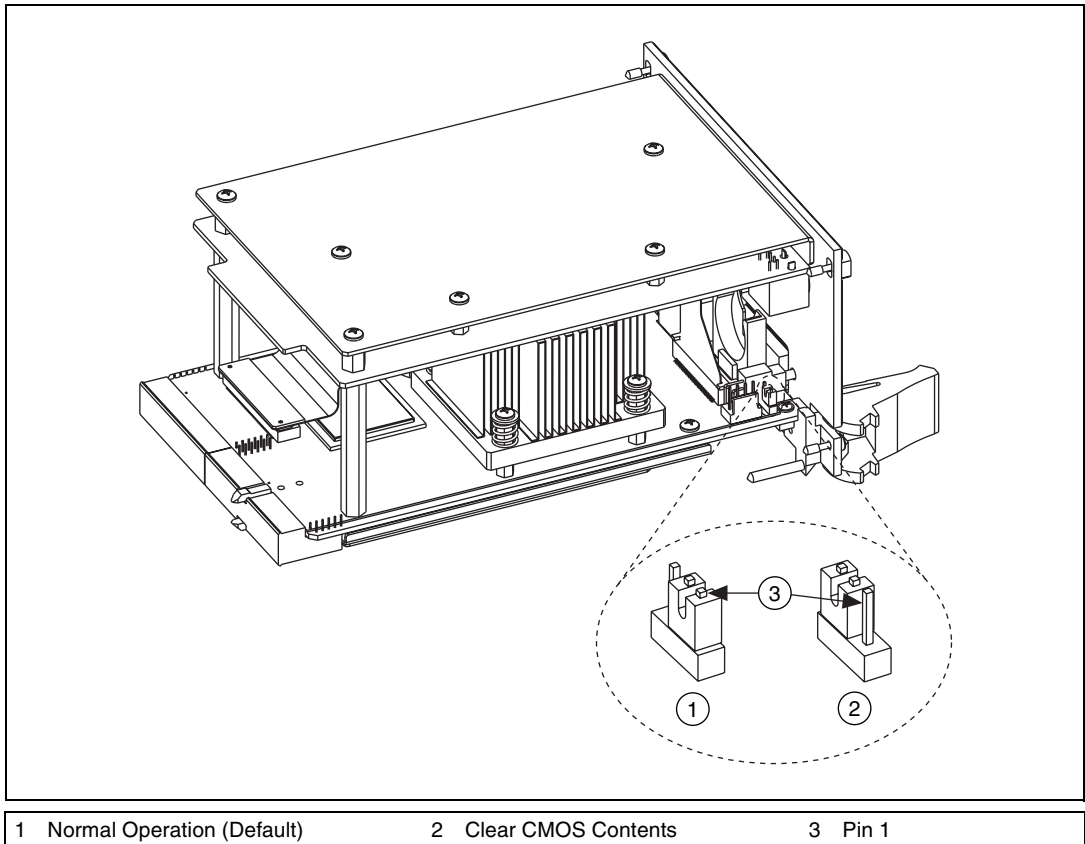

Figure 5-1. Clearing the CMOS Contents
3. Move the jumper on W1 from pins 1-2 to pins 2-3 as shown in Figure 5-1.